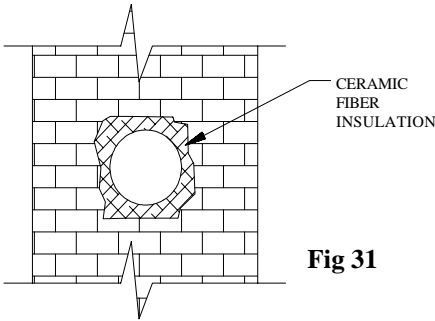

Fig 31
- (i). **Insulation.** Pull the **Pipe Collar** towards the **90° Elbow**. Fill in the gap between the masonry and the horizontal **Pipe Section** with ceramic fiber insulation or fiberglass, as shown in **Figure 31**. If fiberglass is used, remove any paper backing. The filling may be faced off with grout, if desired. Push the **Pipe Collar** back flush with the masonry. Make any final adjustments on the **Adjustable Length Pipe** (if used), and tighten the clamping bolts.